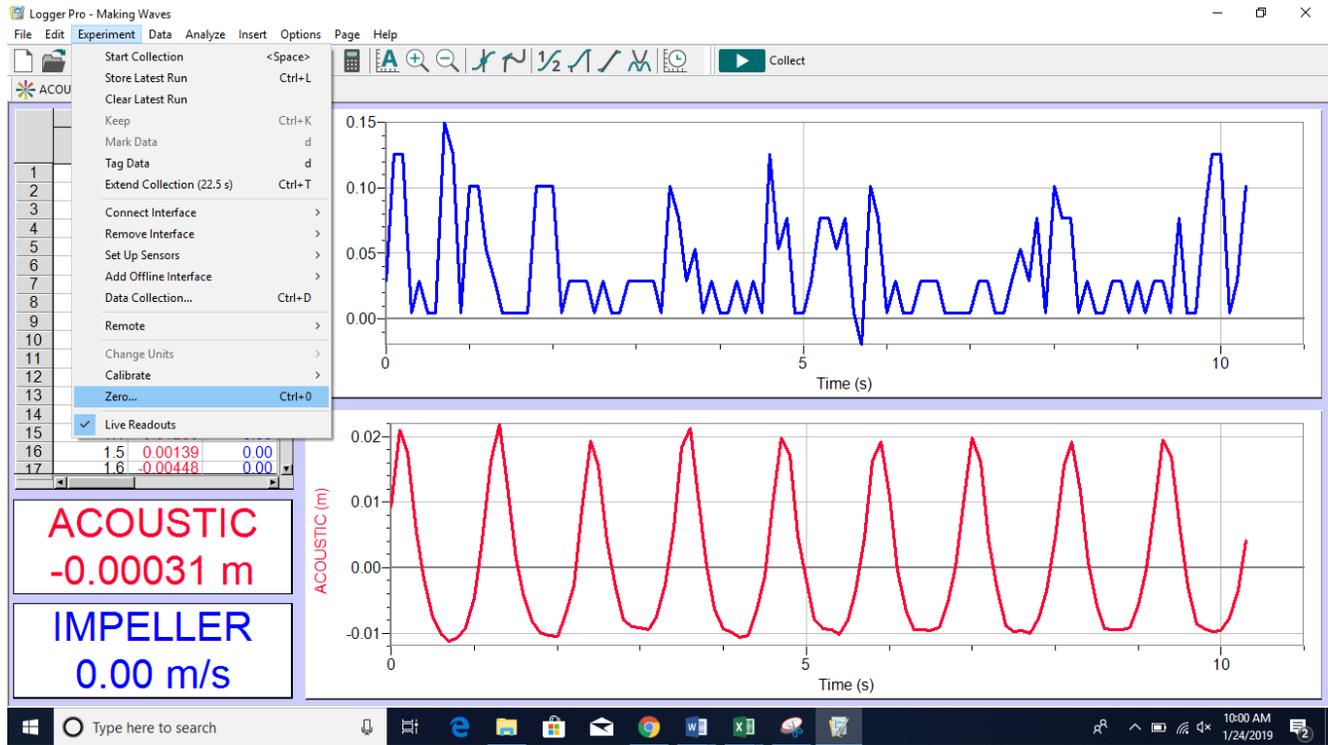

Figure A27. LoggerPro screenshot for zeroing sensors.
- Before any data are collected, make sure to **zero the sensors** when the motor is completely turned off and the water is still. To do this, click 'Experiment' at the top of the page. Then, click 'Zero..'. (Figure A27):